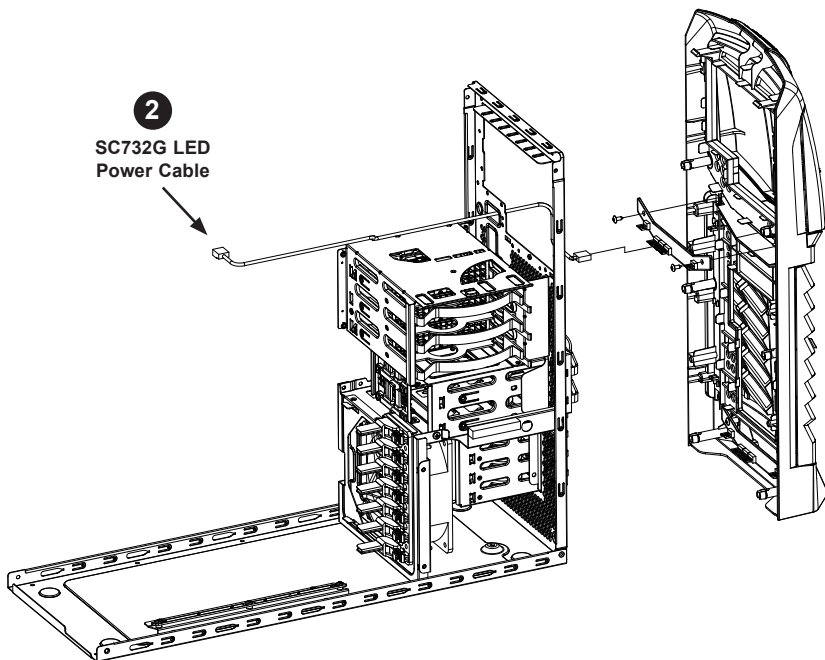

Figure 4-11: Identifying the SC732G LED Power Cable
- If you are using a motherboard other than the Supermicro C7Z87-OCE motherboard, use one of the three LED color power adapter cables included in the SC732G chassis accessory box. (A) Identify the LED power adapter cable as illustrated in Figure 4-11. Connect the LED power adapter cable (A) to the LED power cable (B) and to the power supply (C) as illustrated below.